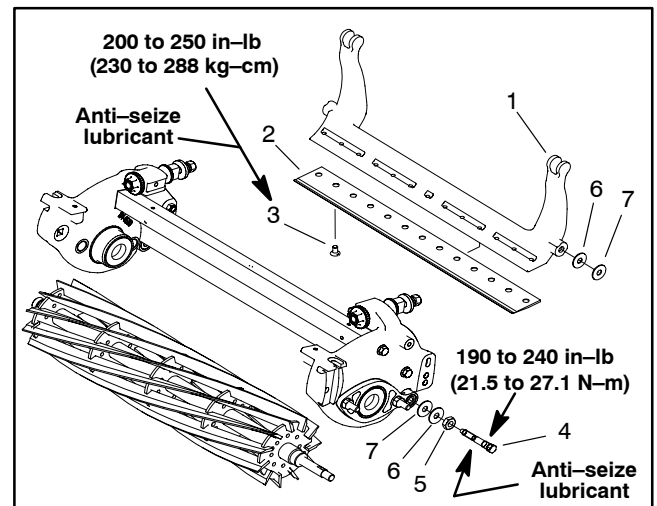

Figure 23
5. Remove bedbar from the mower by pulling downward. Locate and retrieve 2 nylon and 2 metal washers from each side of bedbar (Fig. 23).
4. Secure bedbar to each side plate with bedbar bolts (jam nuts threaded onto bolts) and 8 washers (Fig. 23). A nylon washer should be positioned on each side of bedbar pivot. A steel washer should be placed outside of each nylon washer.